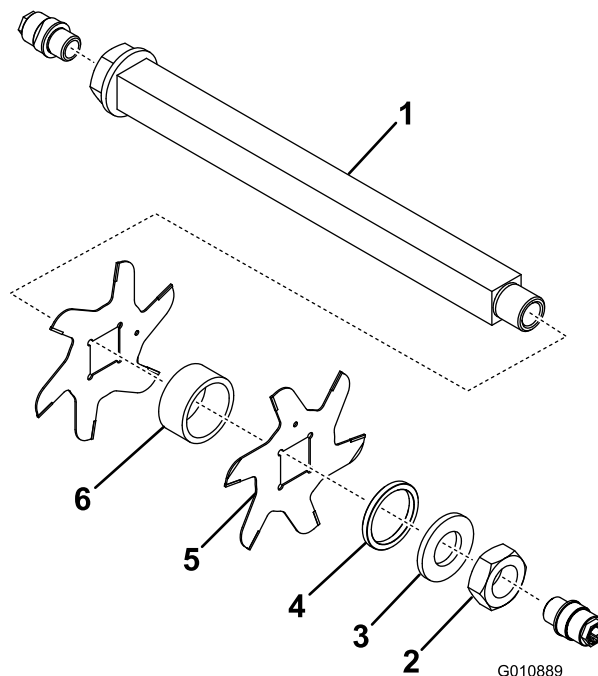

Figure 13
3. Remove the small spacer, the washer, the blades, and the large spacers. Clean and lubricate the square shaft with a light coating of grease to simplify the assembly (Figure 13).